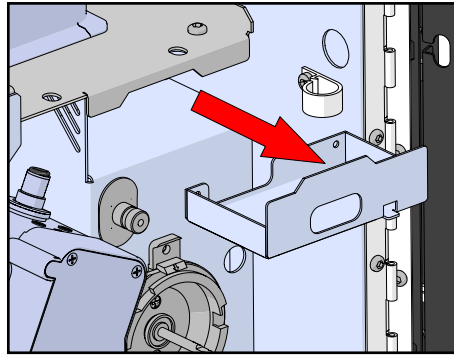

Figure 54.
10. Remove the suction box from the machine and clean (see Figure 54).